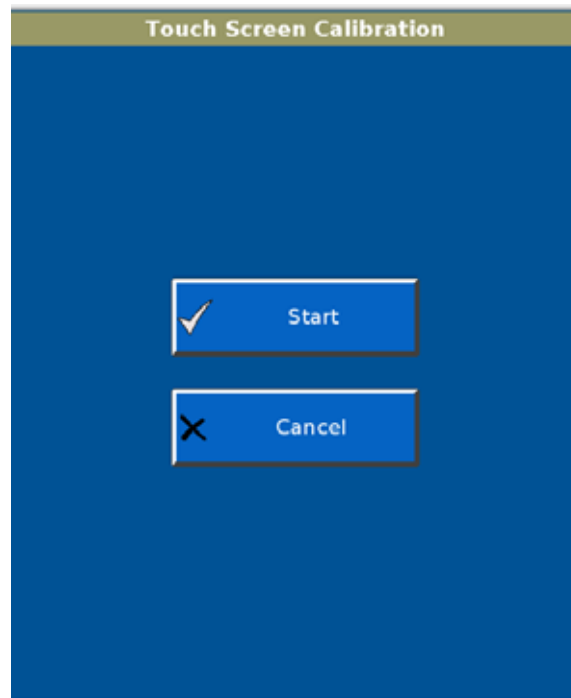

Figure F-12: Calibrate Touch Screen screen
1. From the **Diagnostics Menu**, select **Touch Screen Calibration**. The **Calibrate Touch Screen** screen is displayed (Figure F-12).